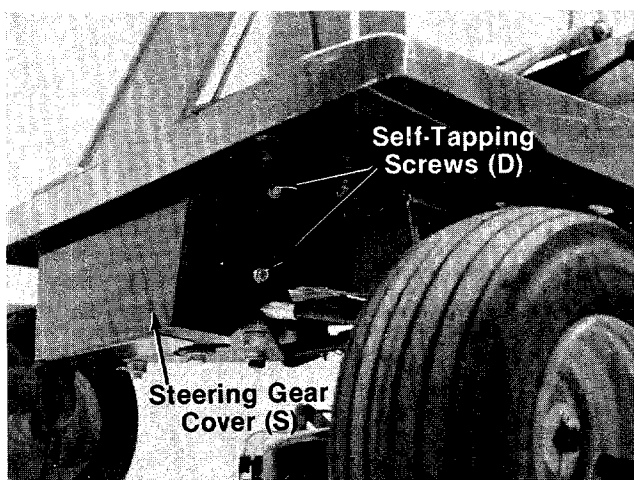

FIGURE 9.
15. Install the steering gear cover (S) as shown in figure 9, to cover the underside of the steering mechanism. Secure with two self-tapping screws (D) on each side of the cover. Do not completely tighten any of these screws until all four of them are positioned correctly.
16. Press steering wheel cap (F) in place in the center of the steering wheel.